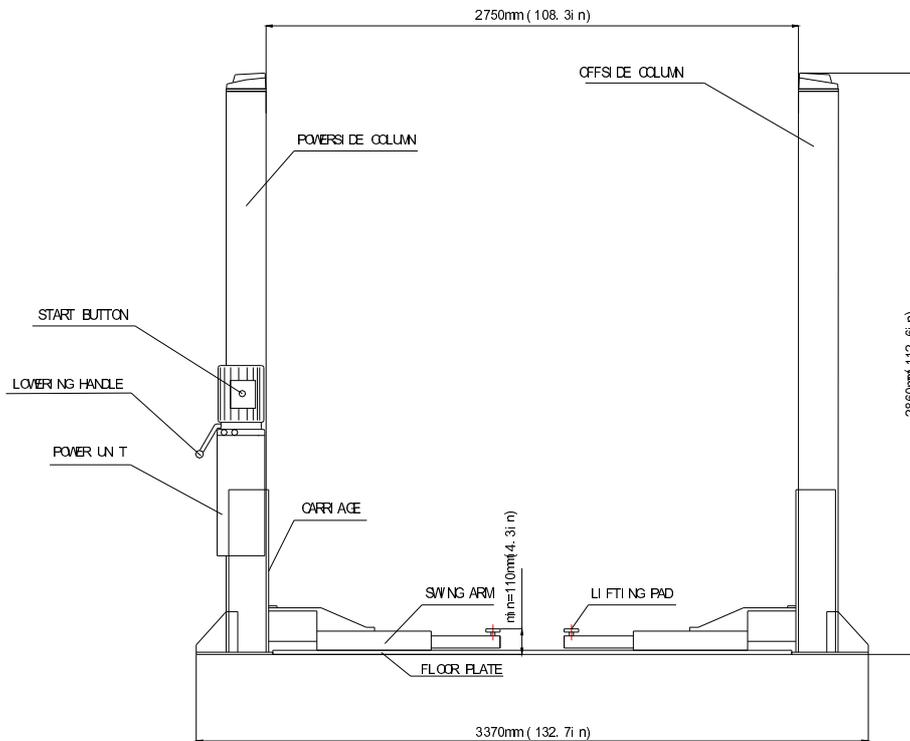
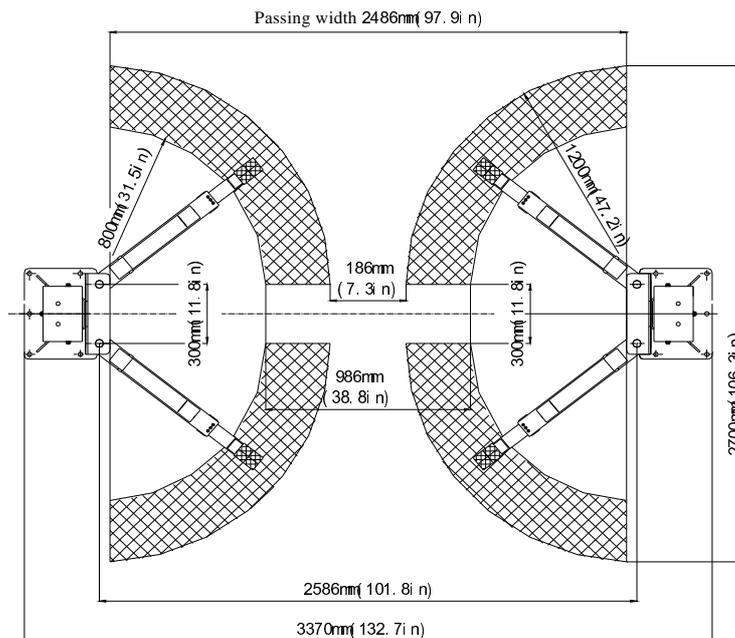

Fig. 1
Fig. 2
TLT235SB(C) floor-plate 2-post lift	3.5T (7875 Lb) floor-plate 2-post lift with symmetrical supporting columns (Fig. 1、 Fig. 2)
The structure of TLT235SB(C) is as shown in Fig.1、 Fig. 2: